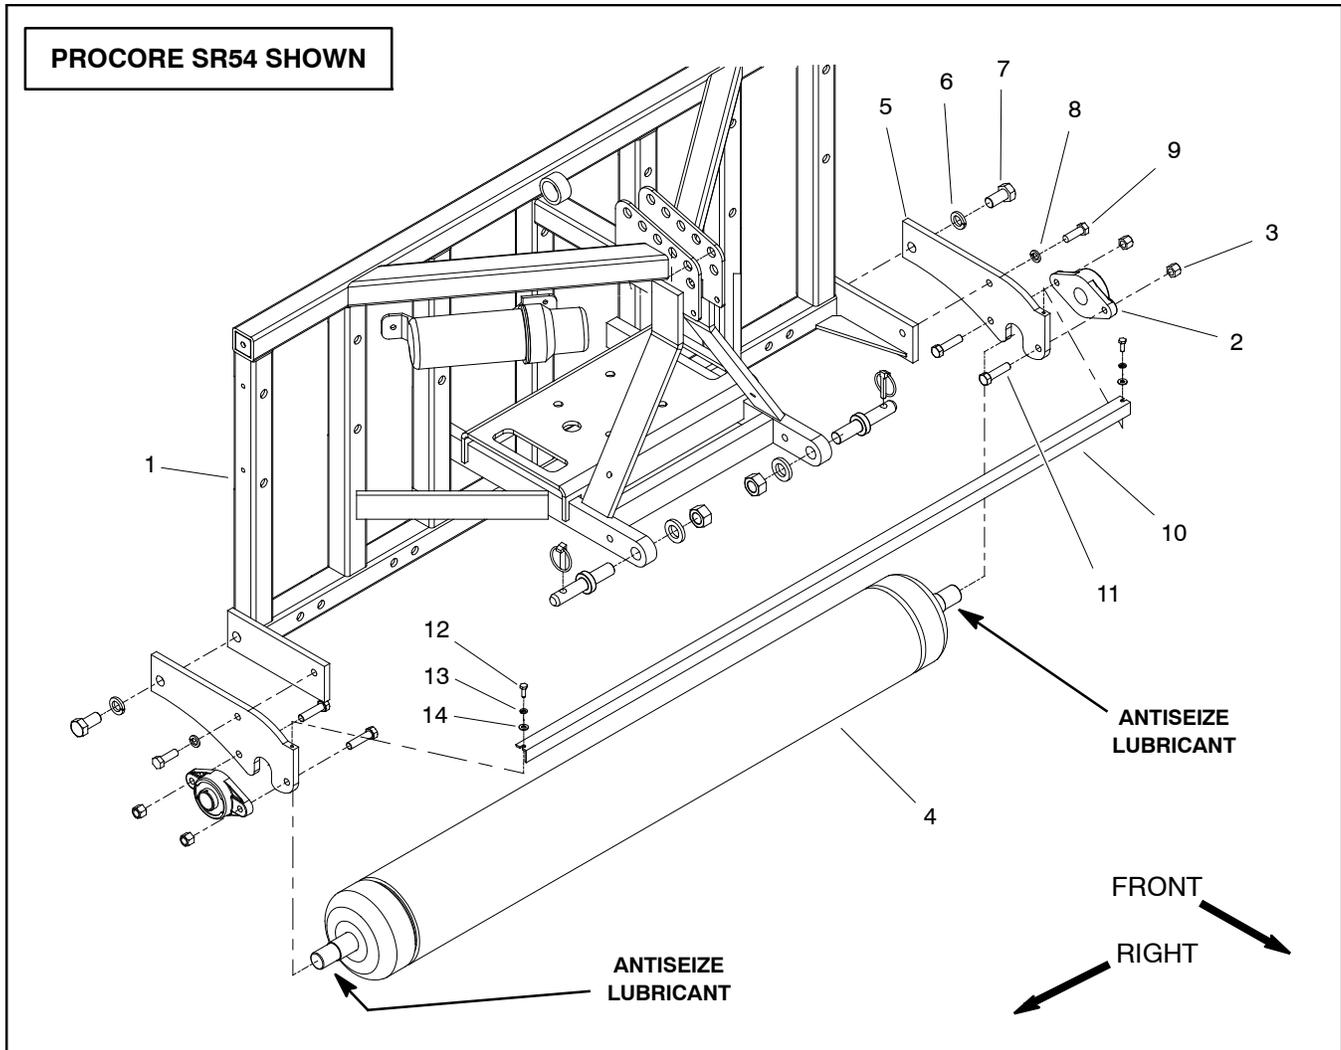
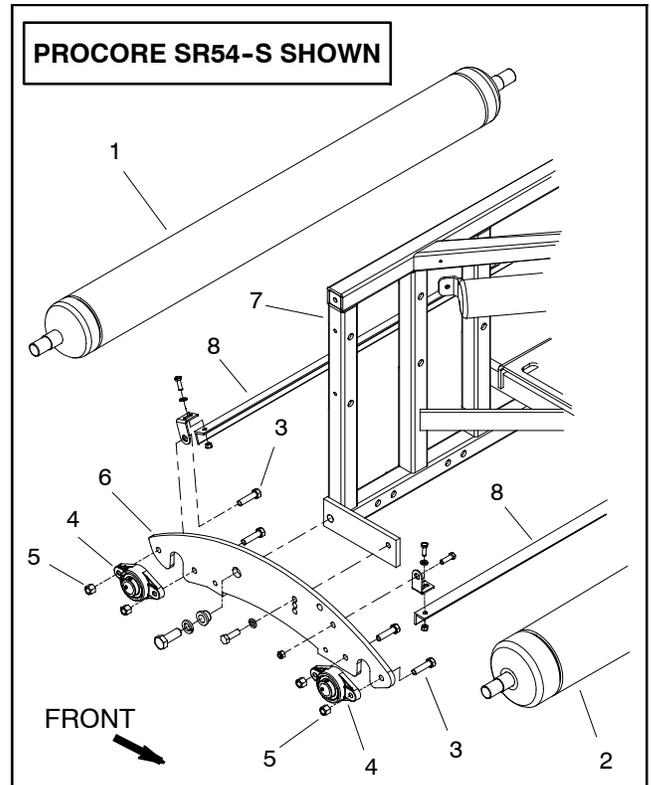

Figure 1
Figure 2
NOTE: ProCore SR54 and SR 70 aerators use a single roller with two (2) bolt flange bearings (Fig. 1). Models SR54-S and SR70-S use two (2) rollers each supported with two (2) bolt flange bearings (Fig. 2). The procedure for removal and installation of the rollers is the same. The ProCore SR54 is shown in Figure 1.
Roller Removal (Fig. 1)
Roller Installation (Fig. 1)